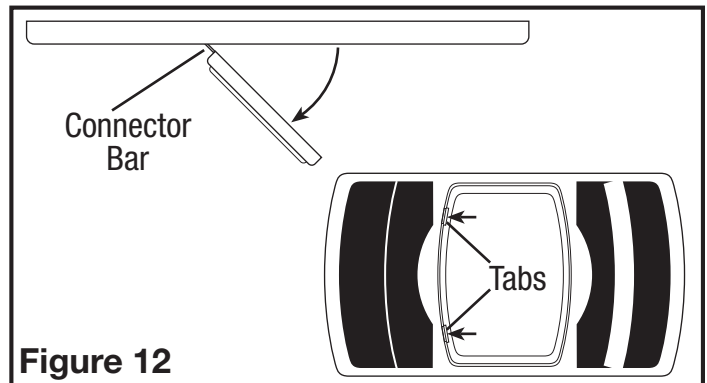

Figure 12
2. Remove grill from carton and open light lens area by pushing in on the two tabs of the light lens and pulling outward from lens. The lens will swing open on the connector bars. DO NOT remove the lens from the grill (**Figure 12**).
- Close the light lens and secure in place by swinging back into position and snapping the tabs in place (**Figure 12**).
- Changing the Light Bulb:** Disconnect power to the unit. Open light lens by pushing in on the two tabs of light lens and pulling outward from lens. The lens will swing open on the connector bars. DO NOT remove the lens from the grill (**Figure 12**).